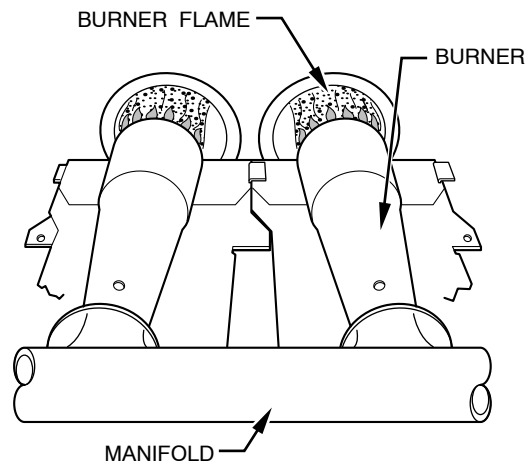

Fig. 53 - Burner Flame
- i. When correct input is obtained, replace caps that conceal gas valve regulator adjustment screws. Main burner flame should be clear blue, almost transparent. (See Fig. 53.)